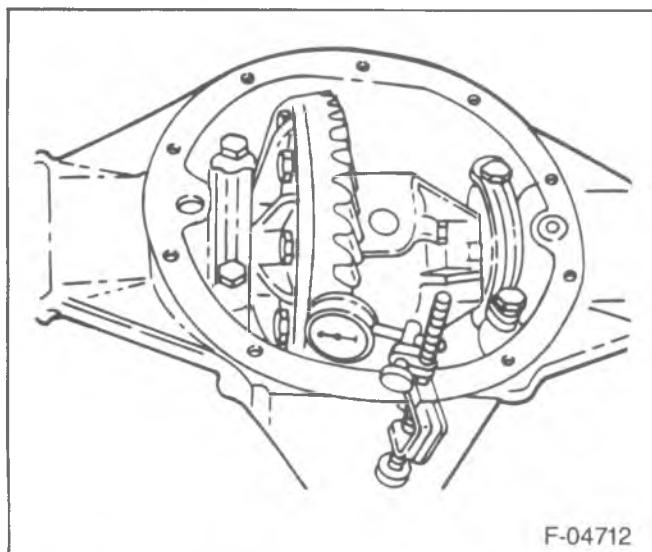

Figure 63—Checking Ring Gear Backlash
3. Check and record the backlash at three or four points around the ring gear (figure 63).